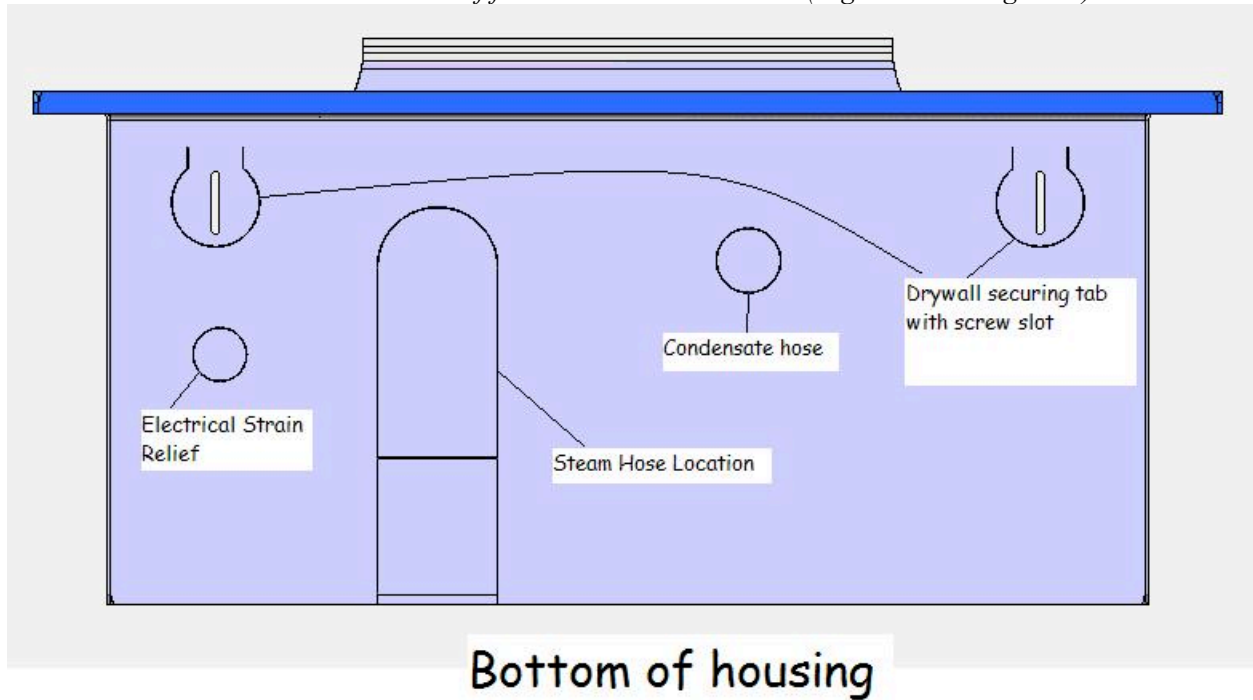
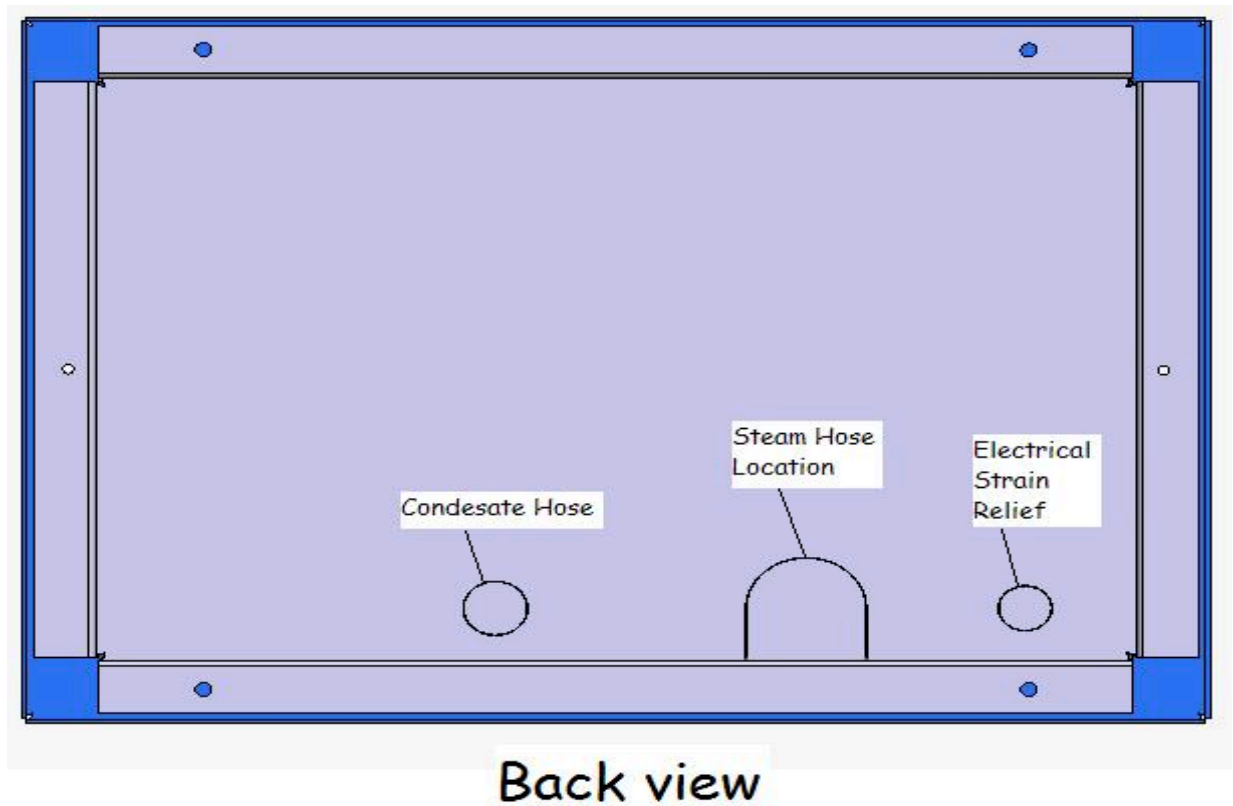

Fig. 5.2.1
Fig. 5.2.2
5.2.1 Determine if the steam will be entering the housing from the back or bottom. Remove the knockouts for the steam hose, condensate hose and electrical strain relief for the desired installation (Fig 5.2.1 and Fig 5.2.2).
5.2.2 Install the provided electrical strain relief to the housing with the wire tightening screws located inside the housing (Fig 5.2.1 and Fig 5.2.2).